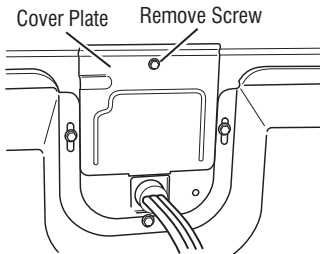

Figure 3 - Remove the cover plate (electric).
2. Remove the cover plate from the back of the dryer. See Figure 3.